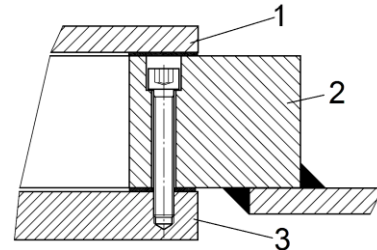
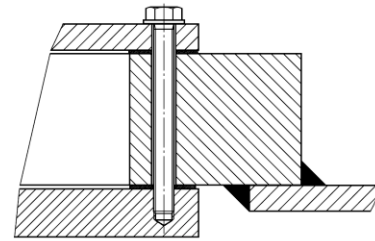

Figure 10a. Mounting arrangement with header frame (2), flat cover (1), tube sheet (3) and Allen head screw.
Figure 10b. Mounting arrangement with header frame, flat cover and a standard bolt.
The water cover can also be made out of two parts: a rectangular header frame (*item 2 of fig. 10a*) with a flat cover (*item 1 of fig. 10a*).
After the header frame is welded in the top plate, the tube bundle (*item 3 of fig. 10a*) is installed from below and the header from above.
Fig. 10a shows an Allen head screw (socket head cap screw) which remains in place when the cover is removed. Fig. 10b shows the standard bolts.
- 7) Finally, fasten the tube bundle with the Allen head screws, see fig.10a.